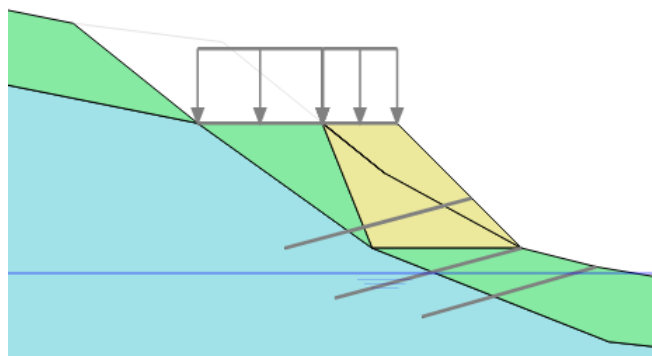

Figure 6: Phase 3, Construction of the fill
- Assign the “reinforced fill” material set to the 4 clusters of the fill area, see figure 6.